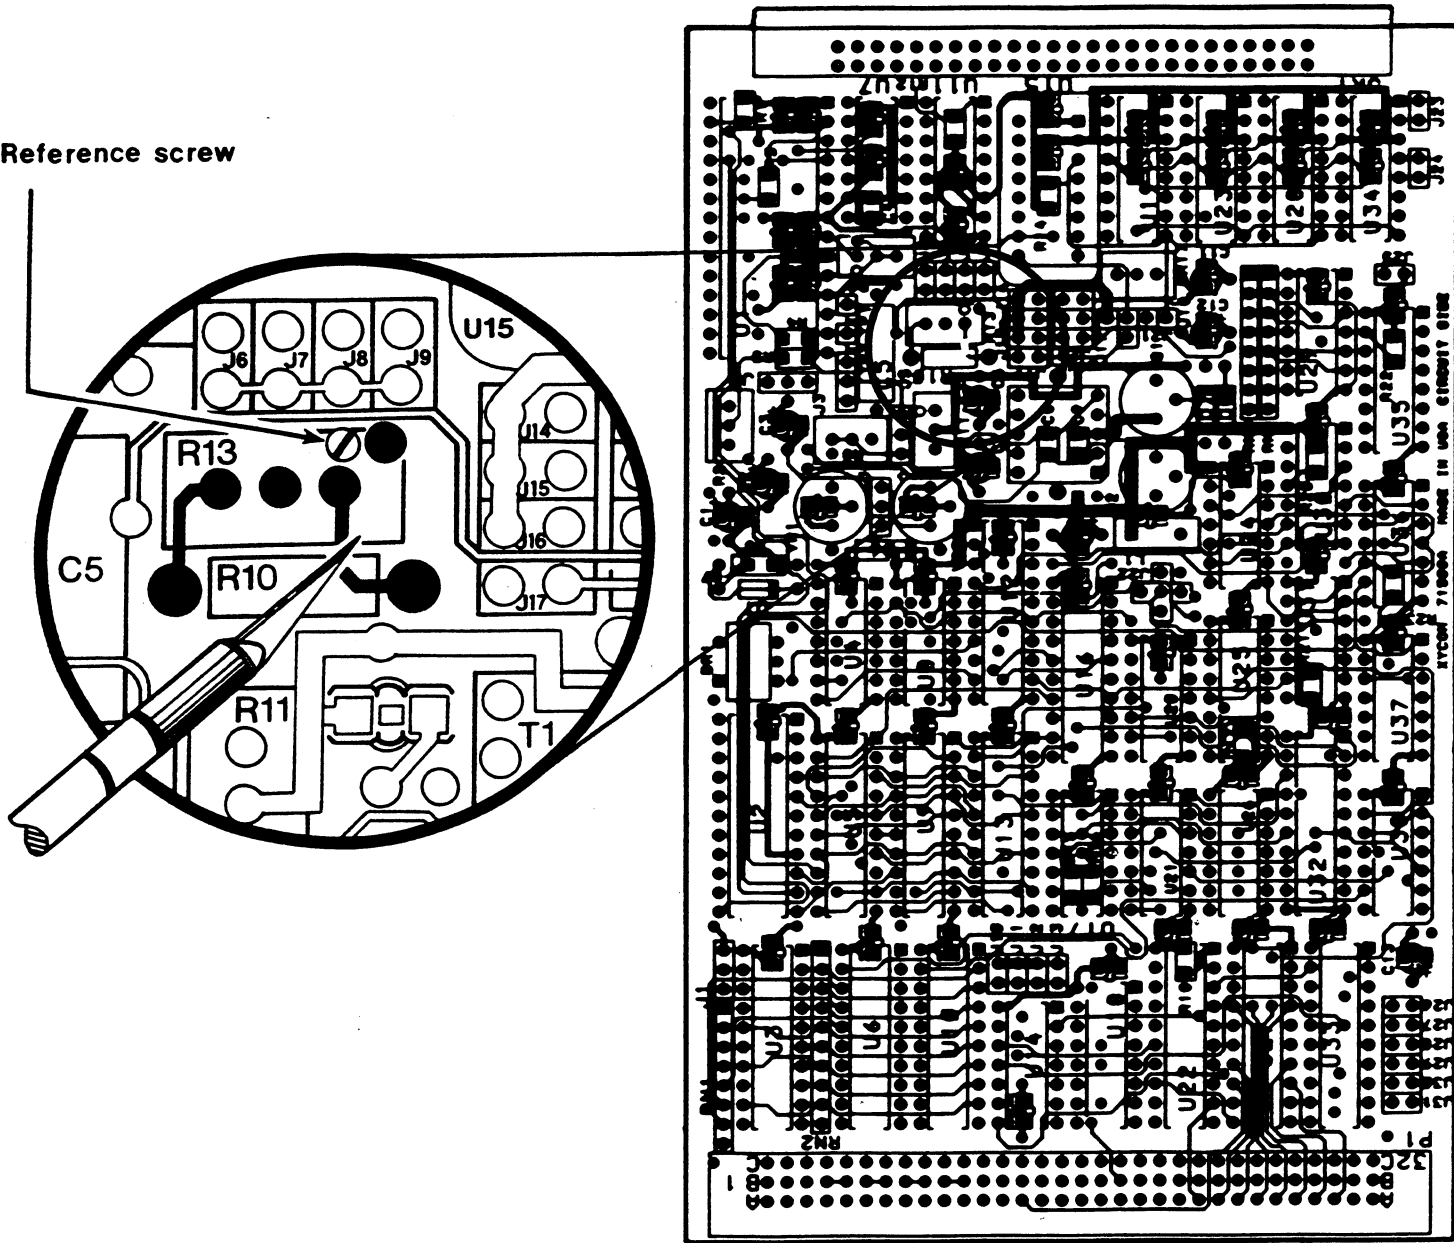
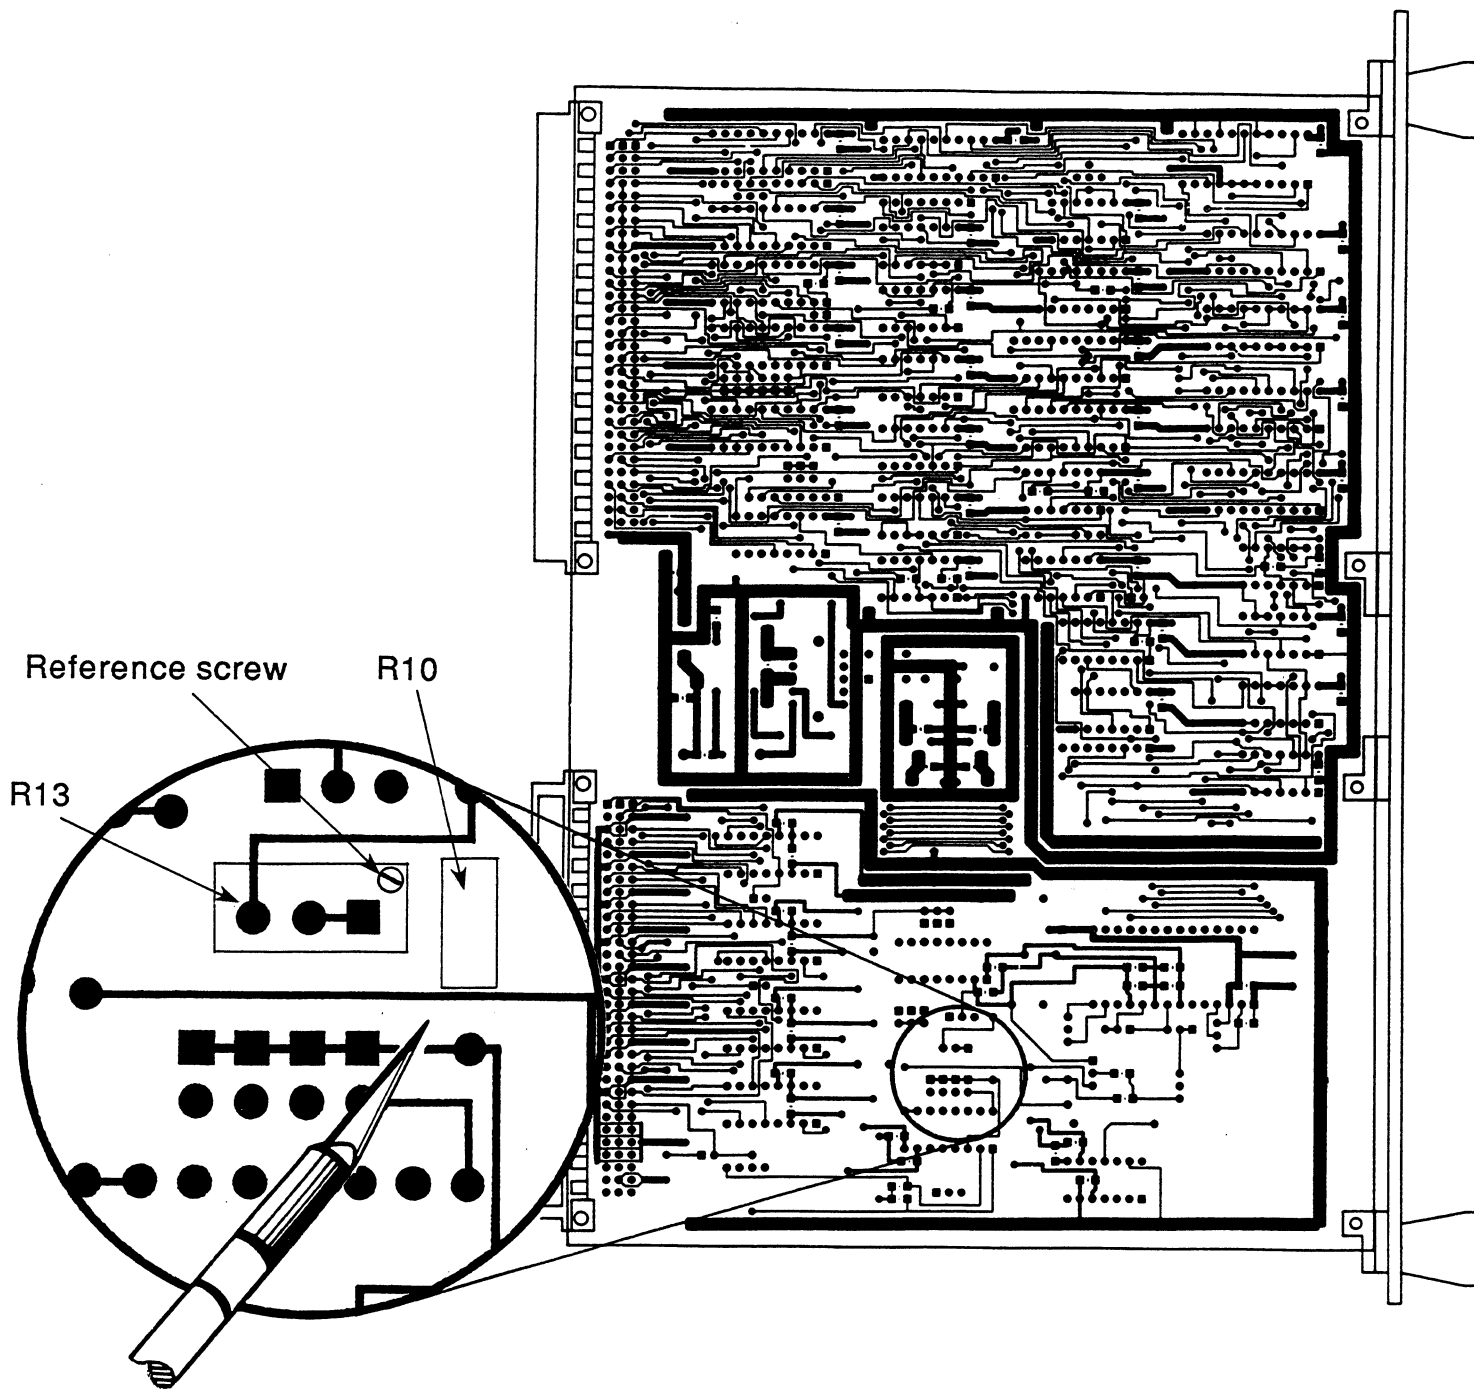

Figure 2-4. Modifying Module for Resistor Programmable Gain
Figure 2-4A. Modifying Module for Resistor Programmable Gain
- 3) Locate the circuit trace in Figure 2-4. Figure 2-4A shows the circuit trace for the XVME-590/1).
- 4) Use a sharp tool (knife, X-acto blade, etc) to sever the trace, as shown in Figure 2-4 (or Figure 2-4A for the XVME-590).
- 6) The resistor 'R10' should be soldered in the position designated by the silkscreen (see Figure 2-4 or Figure 2-4A).